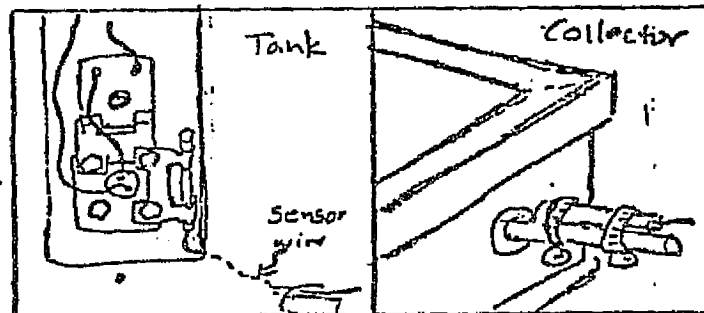

Figure 7: Sensor Installations
2.4.12 Install sensor clips (Figure 7) at the lower element port of the electric tank and the lower blank flange of the storage tank.
- d. Before weatherproofing the piping, run the sensor lead through the roof hole nearest the most convenient collector outlet and secure the sensor to a straight piece of tubing as close to the collector outlet as feasible, using two worm gear clamps or acceptable substitutes. (See Figure 7)
(See Figure 7.)